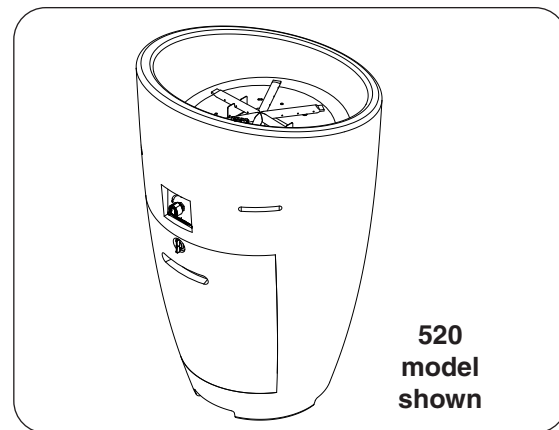

Fig. 17-1 Place urn
1. **CAREFULLY** place the urn in an appropriate location (see Fig. 17-1, and refer back to the LOCATION section if needed).